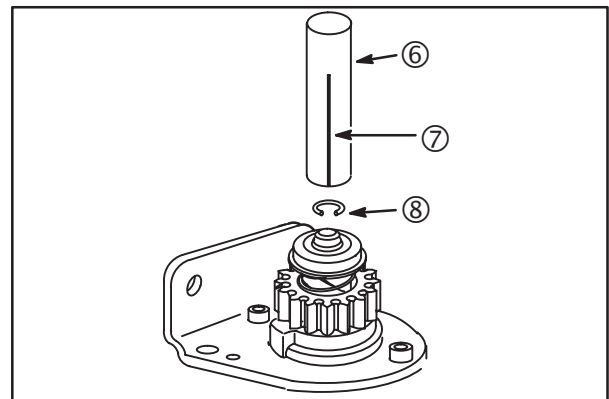

Fig. 9
4. Place C-ring (8) over chamfered end of shaft. Align one of the slots (7) of C-ring Installer #19435 (6) with open end of C-ring, **Fig. 9**.